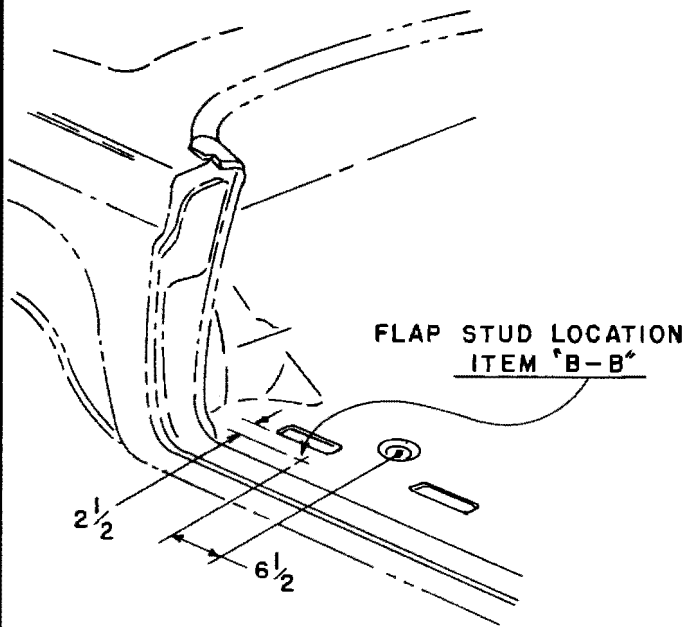

Fig. 3
10. Using dimensions shown in Fig. 3, drill two holes (.117"-.121") into floor pan and insert two studs (items "B—B")